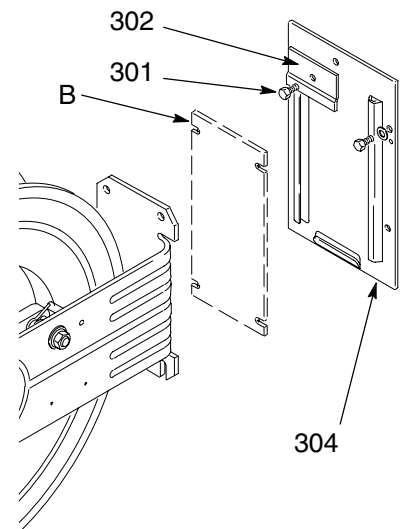

Fig. 10
1. Select the reel bank mounting location. Mount the reel to a wall, using the provided template (B) for laying out the holes you drill.
You *can* mount an accessory base plate (304) to the wall for easier removal of the hose reel for servicing. See Fig. 10.
2. Slide the hose reel onto the base plate (304) and install the hold-down plate (302) and capscrew (301). Tighten the screw firmly. See Fig. 10.